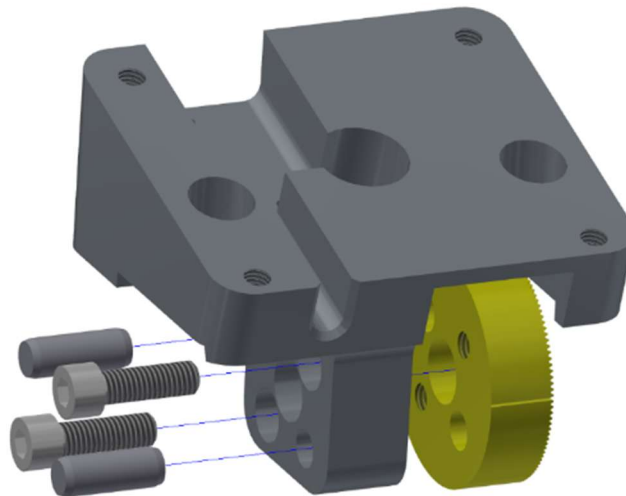

Figure 6-49. Install the Neck Posture Gear Assembly (474-3059) on the Neck Posture Adjustment Neck Interference Plate (474-3058)
- 6.3.18 Install the Neck Posture Gear Assembly (474-3059) over the two Pull Out M6 X 16 Dowel Pins (5001266) on the Neck Posture Adjustment Neck Interference Plate (474-3058) and secure the gear using two M5 Neck Pitch Change Screws (472-3638) (Figure 6-49).